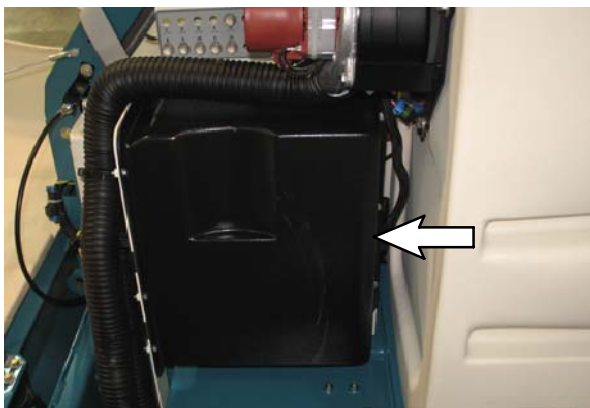

FIG. 8
10. Remove the cover from the control box. Set the hardware and cover aside. Refer to Fig. 8.